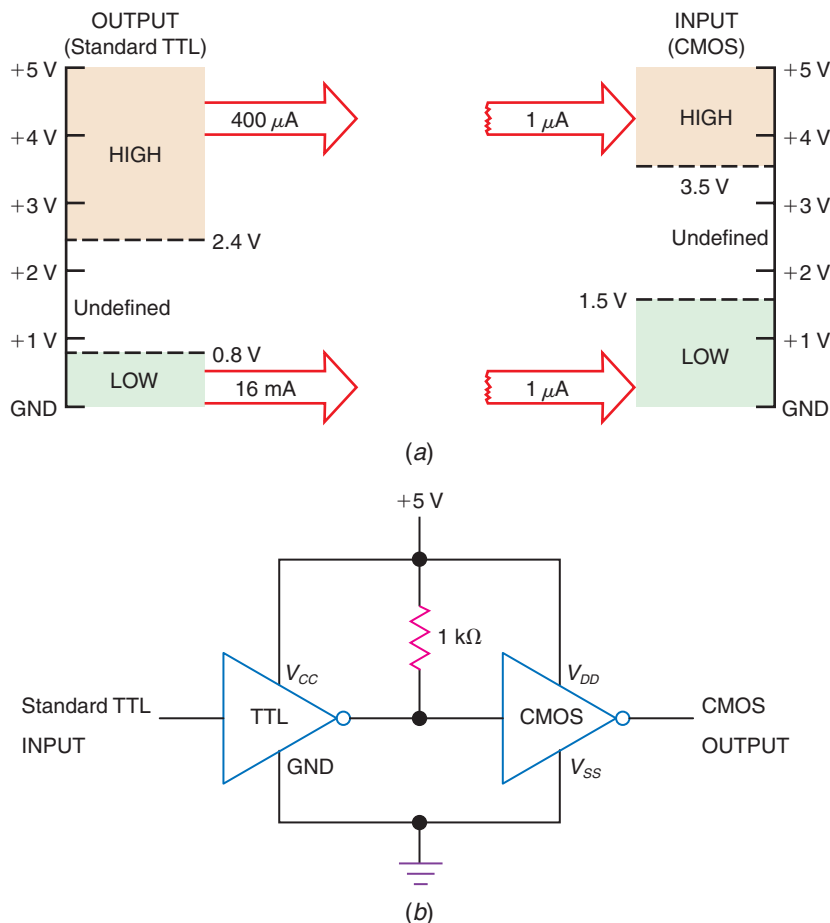

Fig. 5-20 TTL-to-CMOS interfacing. (a) TTL output and CMOS input profiles for visualizing compatibility. (b) TTL-to-CMOS interfacing using a pull-up resistor.
CMOS and TTL logic levels (voltages) are defined differently. These differences are illustrated in the voltage profiles for TTL and CMOS shown in Fig. 5-20(a). Because of the differences in voltage levels, CMOS and TTL ICs usually cannot simply be connected together. Just as important, current requirements for CMOS and TTL ICs are different.
Look at the voltage and current profile in Fig. 5-20(a). Note that the output drive currents for the standard TTL are more than adequate to drive CMOS inputs. However, the voltage profiles do not match. The LOW outputs from the TTL are compatible because they fit within the
wider LOW input band on the CMOS IC. There is a range of possible HIGH outputs from the TTL IC (2.4 to 3.5 V) that do not fit within the HIGH range of the CMOS IC. This incompatibility could cause problems. These problems can be solved by using a *pull-up resistor* between gates to pull the HIGH output of the standard TTL up closer to +5 V. A completed circuit for interfacing standard TTL to CMOS is shown in Fig. 5-20(b). Note the use of the 1-k Ω pull-up resistor. This circuit works for driving either 4000 series, 74HC00, or FACT series CMOS ICs.
The problem of voltage incompatibility from TTL (or NMOS) to CMOS was solved in Fig. 5-20 using a pull-up resistor. Another
Looking at the voltage and current profiles (such as in Fig. 5-20(a)) is a good starting point when learning about or designing an interface. Manufacturers' manuals are also very helpful.
41. Refer to Fig. 5-20(a). According to this profile of TTL output and CMOS input characteristics, the logic devices _____ (are, are not) voltage compatible.